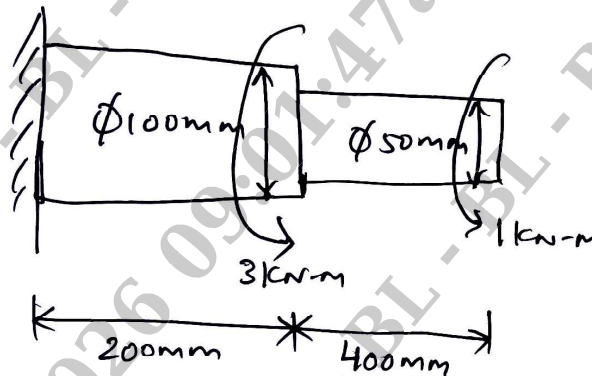

Fig. Q6 (b)
b. A solid stepper bar of circular cross section is subjected to a torque of 1 kN-m at its free end and to a torque of 3 kN-m at its change in cross section as shown in Fig. Q6 (b). Determine the angle of twist and shear stresses in the bar. Take $E = 2 \times 10^5\text{ N/mm}^2$ and $G = 7 \times 10^4\text{ N/mm}^2$. (10 Marks)